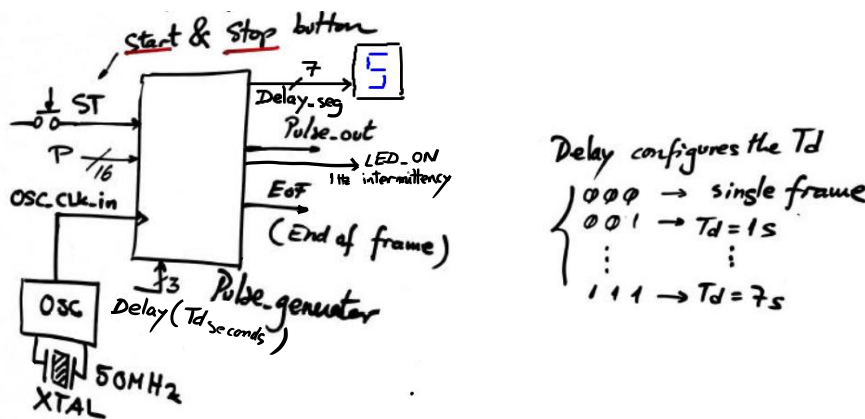
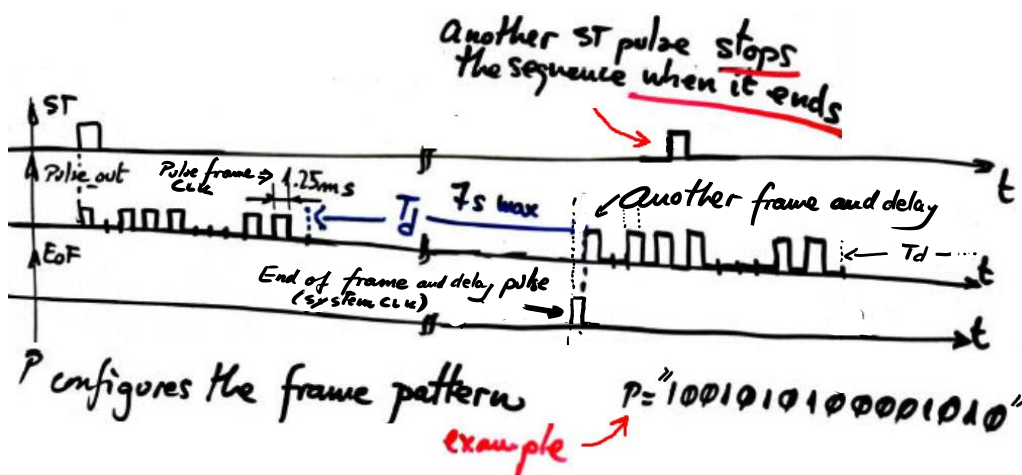

Fig. 1
Fig. 2
In Fig. 1 there is the first draft sketch of a synchronous sequential machine to generate a periodic and programmable train of pulses. Each frame consist of a pattern of 16 configurable pulses and a time delay. The timing diagram in Fig. 2 represents how the frame is generated after triggering the start/stop button *ST*. At the end of each pulse array and delay time, there is an end-of-frame (*EoF*) pulse signal to indicate the end of a cycle and the beginning of a new one if the signal is set periodical. A single frame generation is possible when  $T_d = "000"$ . For other  $T_d$  values the repetition cycle is set between 1 s (" $001$ ") and 7 s (" $111$ "). It also may be interesting to represent de programmed  $T_d$  delay using a 7-segment digit.
9. Write down the VHDL test bench translating approximately the inputs signals in the Fig. 2 diagram. Run a functional simulation to verify the circuit's operation.